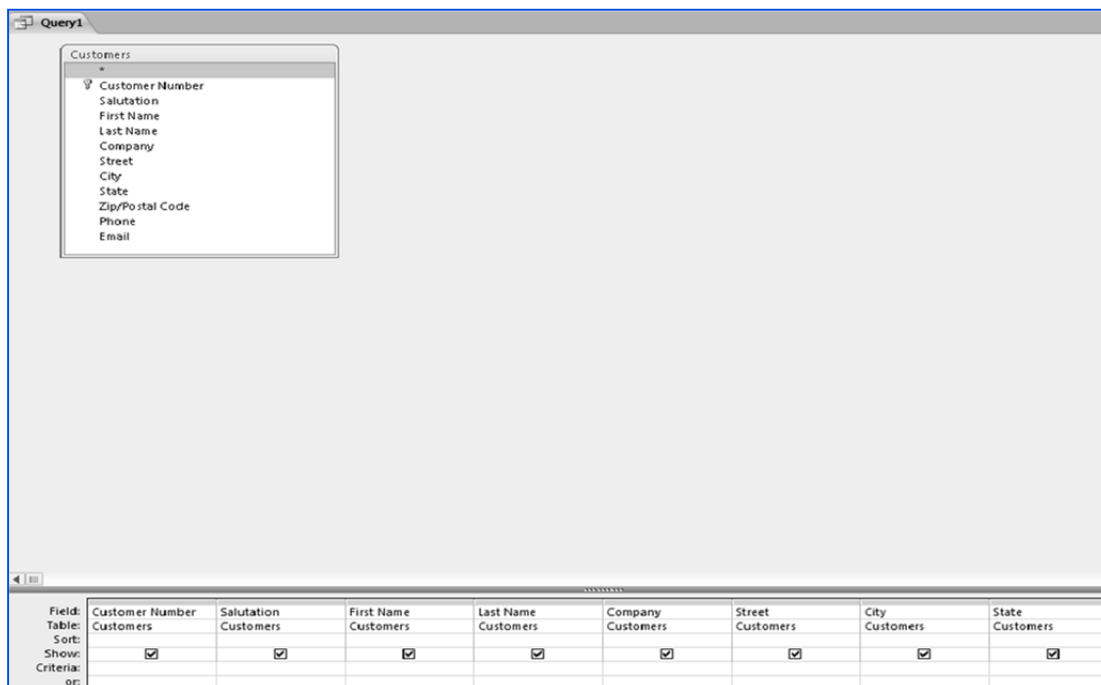

Fig. 3.2.2. Select Required Columns
3. Select the columns *Salutation*, *First Name*, *Middle Name*, *Last Name*, *Company*, *Street City*, *State*, *Zip/Postal Code* *Phone*, and *Email* from table *Customers* and drag them to the columns tab. The Query window appears, as shown in Fig. 3.2.2.